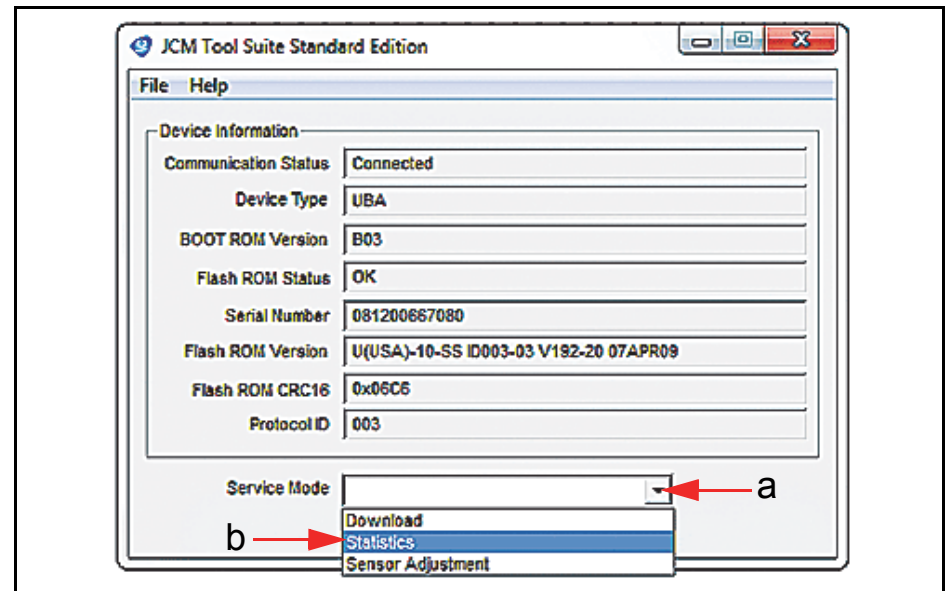

Figure 3 JCM Tool Suite Program Screen
4. Use the Down Arrow ▼ to the right of the Service Mode Pull-Down Menu on the Screen (See Figure 3 a), and select "Statistics" from the Menu (See Figure 3 b).